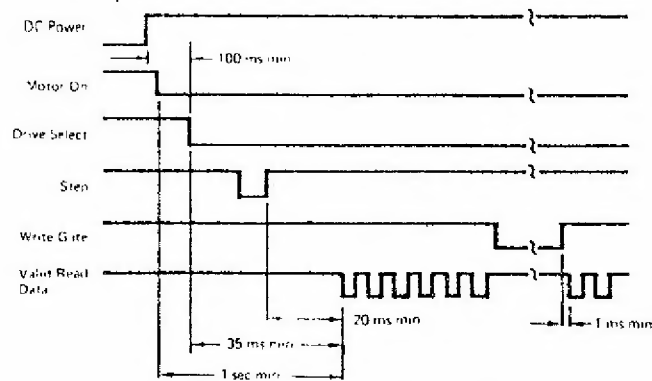

Figure 3-2 Read Initiate Timing
3.2.3 Drive Select 1 to 4. The Select lines provide a means of selecting and deselecting one of the four disk drives attached to the controller. When the signal logic level is true (low), the disk drive electronics are activated, the head is loaded, and the drive is conditioned to respond to step or read/write commands. When the logic level is false (high), the input control lines and output status lines are disabled. A select line must remain stable in the true (low) state until the execution of a step or read/write command is completed. After the desired device is selected, allow a 35 msec delay before initiating a read (see Figure 3-2).
3.2.4 Motor on. This input is provided to extend the life of the dc spindle motor. The motor should be turned off if no activity is required of the Model 51/52 after 10 revolutions of the diskette. A minimum of 0.5 second is required before performing a read or write after a "Motor On" command is transmitted to the device (see Figures 3-2 and 3-4).